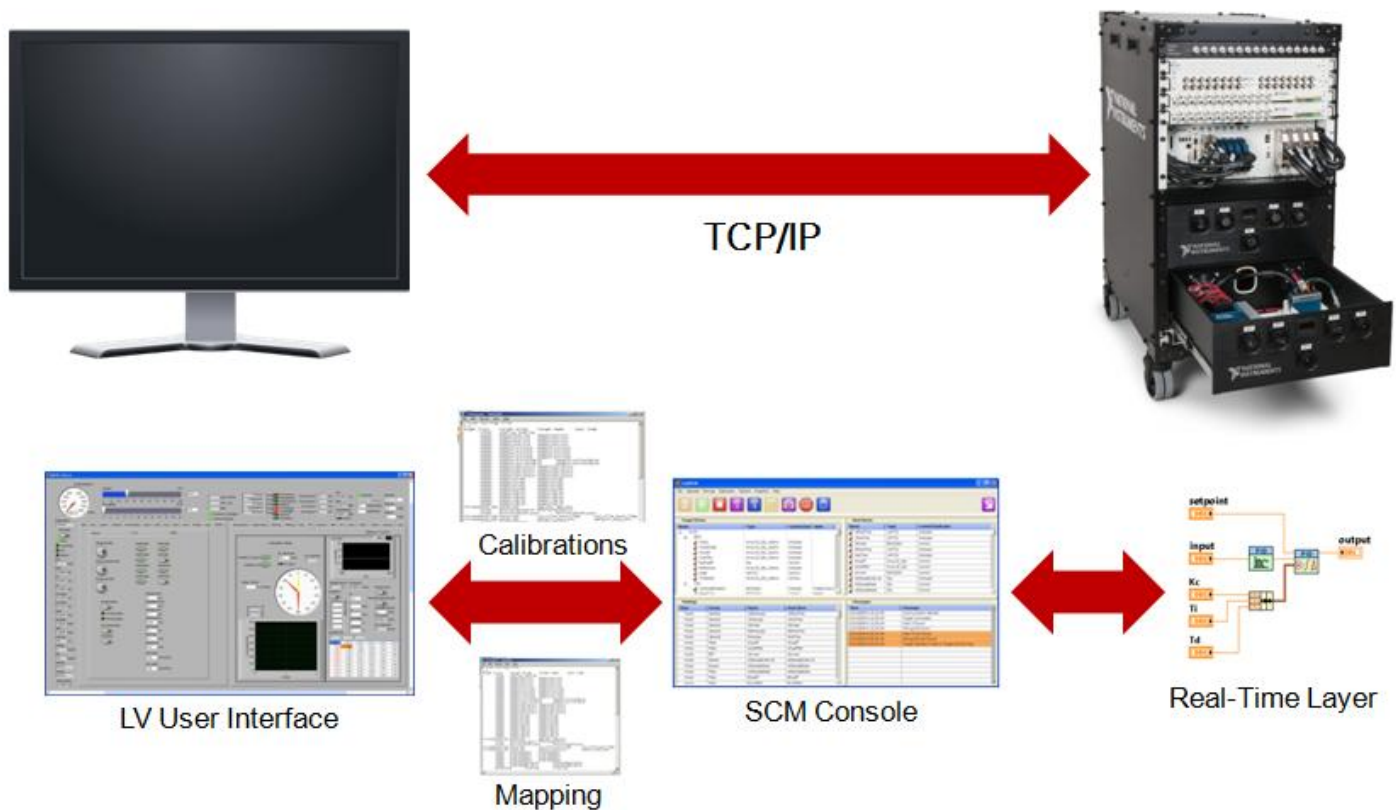

Figure 8. How the NI Software Calibration Management (SCM) Toolkit Works
1. Windows Host UI—The user interface is incorporated in a LabVIEW front panel with controls and indicators that correspond to CalPoints on the real-time target. You can interact with control parameters, lookup tables, sensor values, graphs of data, and so on. The NI Software Calibration Management (SCM) toolkit, installed on the Windows host computer, is used to publish values back and forth between CalPoints on the real-time layer and the UI (see Figure 8). With the SCM toolkit, you can publish single or multiple parameters to an A2L file for ASAP3 communication to other test cell systems, save or restore different calibration files, view faults, change default values, and perform many other standard engine calibration procedures on the fly.